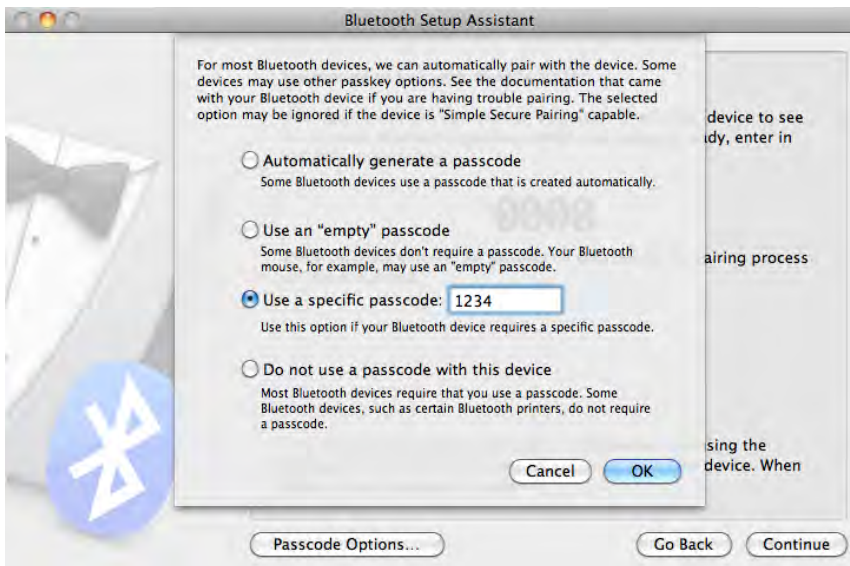

Figure 8-25. Specifying the passkey (the default is 1234)
3. Select the “Use a specific passcode” option, type **1234** as shown in Figure 8-25, and then click OK. Now you can complete the setup process.